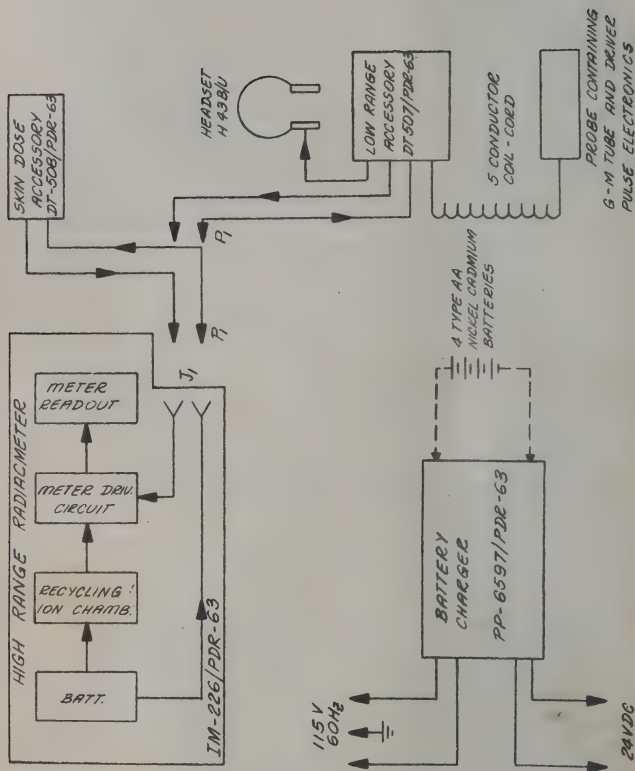
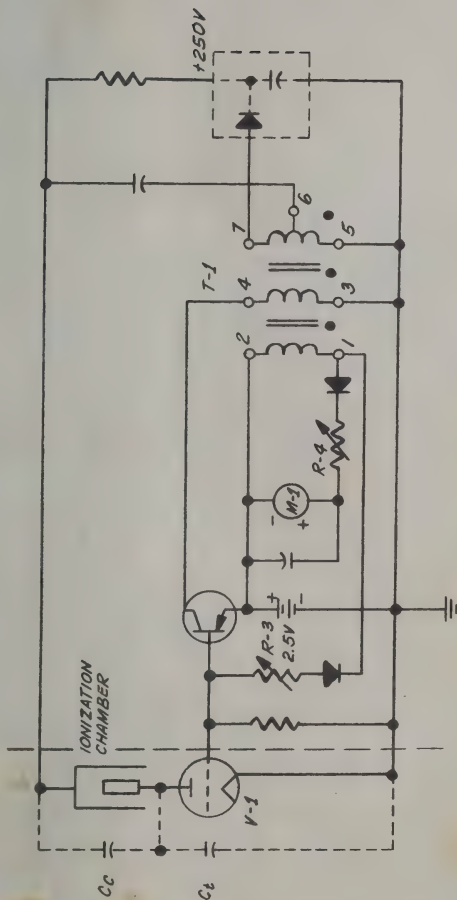

Figure 4-1. Overall Functional Block Diagram
Figure 4-2. Simplified Schematic Diagram
With reference to Figure 4-1, the High Range unit contains the primary power, the meter readout and the range switch which selects the appropriate mode of detection for the accessory connected to J1. The Charger functions independently and is intended to recharge 4 nickel cadmium size AA cells only.
a. High Range Radiacmeter, IM-226/PDR-63 - The high range radiacmeter as shown in Figure 4-1 comprises a pressurized recycling ion chamber, the output of which is a pulse rate proportional to the incident radiation dose rate. A simple integrating circuit converts the pulse rate to a d.c. which drives a microammeter calibrated in rad/hr. A simplified schematic diagram of the recycling circuit is shown in Figure 4-2. The four basic components are the:
(1) The deep-dose (gamma) detector, a 32.6cc aluminum ionization chamber filled with argon to 12 atmospheres pressure and enclosing a JAN 5886
(2) The recycling circuit integral with the High Range unit, Figure 4-2 which is composed of two regenerative feedback loops (a) trigger loop consisting of the inverted electrometer V-1, transistor Q-1, windings 3-4 and 5-6 of transformer T-1, and the
Referring to Figure 4-2, assume that a recycling event has just occurred and the charge on  $C_C$  is such that the potential of the plate (control electrode) of V-1 is sufficiently negative to cut-off the current flow to the positive grid. Incident radiation will cause ionization in the detector and a resultant loss of charge on  $C_C$ . The plate potential of V-1 becomes less negative and the grid current begins to flow, whereupon the system begins to oscillate around the regenerative trigger loop. At some particular value of grid current, the oscillation will be large enough to initiate the blocking cycle and activate the low-impedance drive loop. The transformer core is driven to saturation, the circuit blocks, and the energy stored in the inductance of the transformer is delivered to the meter. During the on time of Q-1, the positive voltage pulse that appears on winding 5-6 recharges the detector capacitance  $C_C$  through the diode action of the electrometer plate. When the pulse disappears, the plate is again biased negative, the ionization chamber discharges, and the cycle is repeated.
Because of the relative simplicity of this instrument, the Functional Section Block Diagram is identical to the Overall Functional Block Diagram, Figure 4-1.